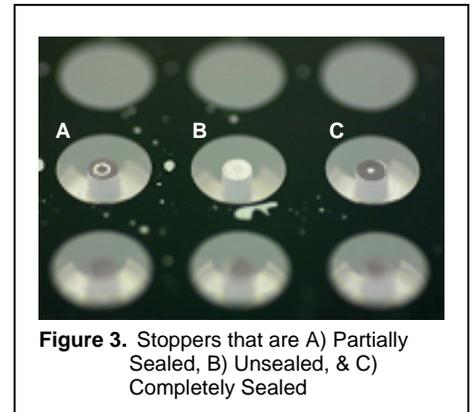

Figure 3. Stoppers that are A) Partially Sealed, B) Unsealed, & C) Completely Sealed
- Visually inspect the underside of the populated 96-well plate to ensure that the Oris™ Cell Seeding Stoppers are firmly sealed against the bottom of the plate. To inspect the stoppers, turn the plate over and examine the stoppers for sealing (see Figure 3). If incomplete sealing is observed, return the plate to the upright position and use a sterile instrument to gently push the stopper back into the well until sealing is observed.
NOTE: the sealing of the stoppers can be most easily observed if the plate is tipped at an angle and viewed under indirect light looking for the bullseye pattern at the bottom of each well (see Figure 3).